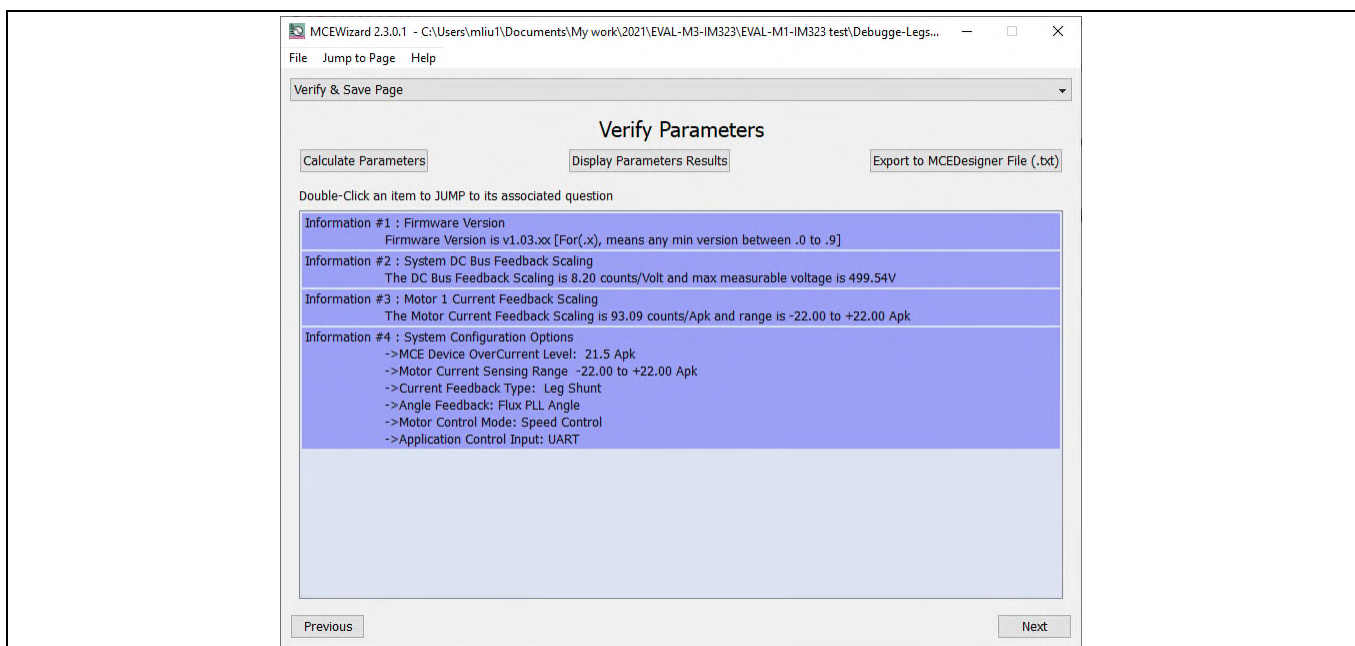

Figure 7 MCEWizard’s Verify & Save page
4. After setting the system and operating parameters, go to the Verify & Save page and click **Calculate Parameters**. If no errors are reported, save the drive parameter set into your project directory by clicking **Export to MCEDesigner file (.txt)** (see Figure 7); if an error message appears, double-click the error message (highlighted in RED) and adjust the erroneous parameters. This drive-system parameter file is later used by the MCEDesigner (step 9.)